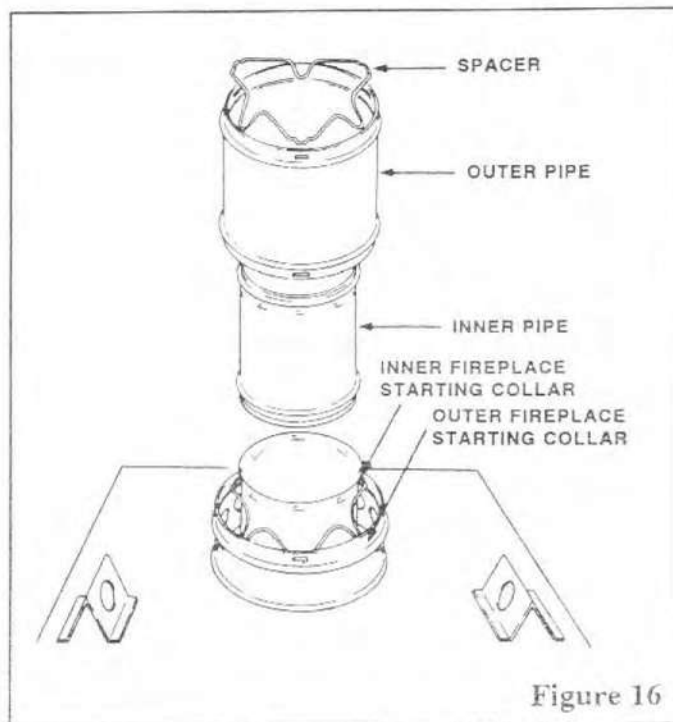

Figure 16
**STEP 1:** When installing the chimney directly on the fireplace, install the inner pipe section by fitting the male end into the inner fireplace starting collar. Make sure the male end is fully inserted to lock into the lances as shown in Figure 16.